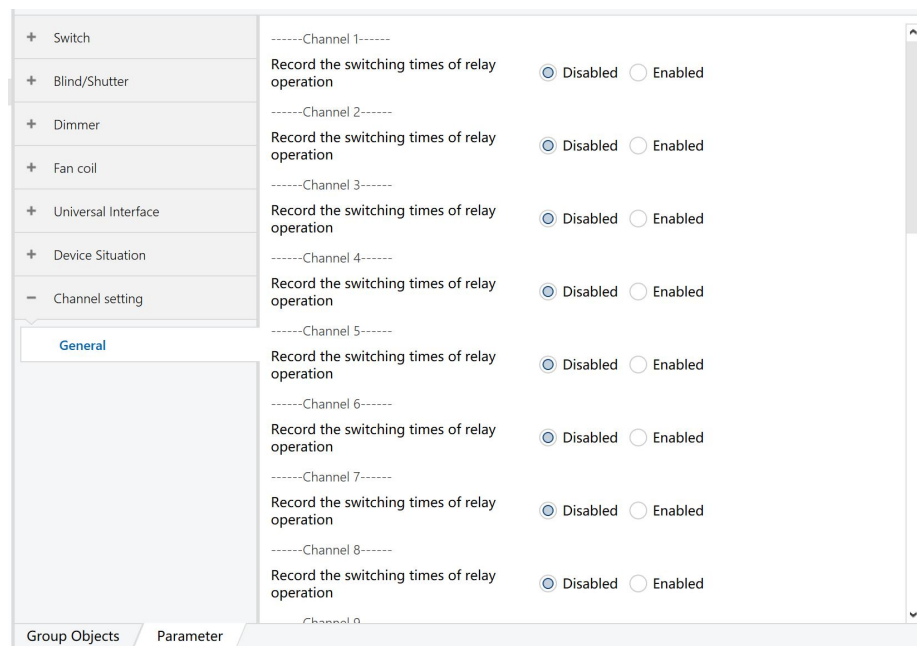

Figure 6.7.1
1) Click "Channel setting" as shown in Figure 6.7.1, and the corresponding function configuration of 1-24Channel will appear on the right, taking Channel 1 as an example.